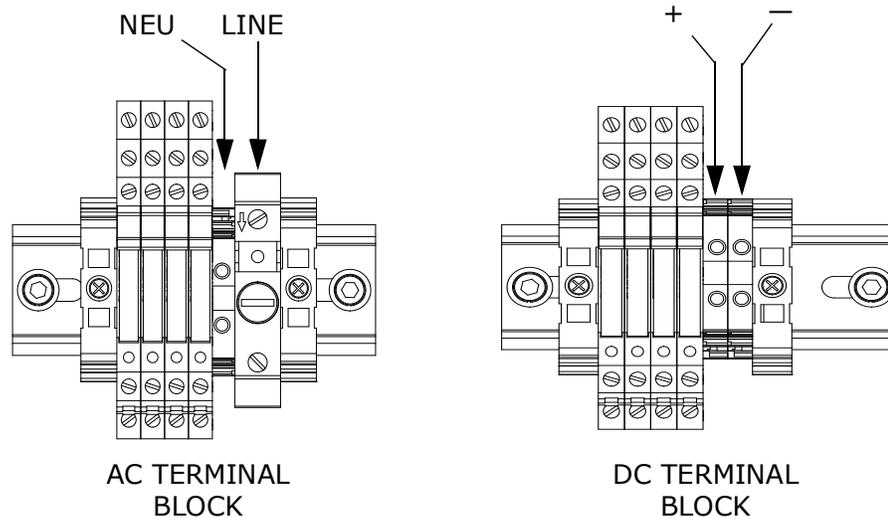

Figure 3-2 AC and DC connection terminal blocks in electronics enclosure
8. For AC systems, attach the neutral and hot wires to the power terminal block by connecting the neutral wire to the terminal marked "NEU," the hot wire to the terminal marked "LINE," as shown in Figure 3-2.
For DC systems, connect the negative wire to the terminal marked "-", and the positive wire to the terminal marked "+," as shown in Figure 3-2.
- Wrap the wires tightly around the ferrite making sure the ferrite ends up as close to the entry point of the wires as possible, as shown in Figure 3-2.